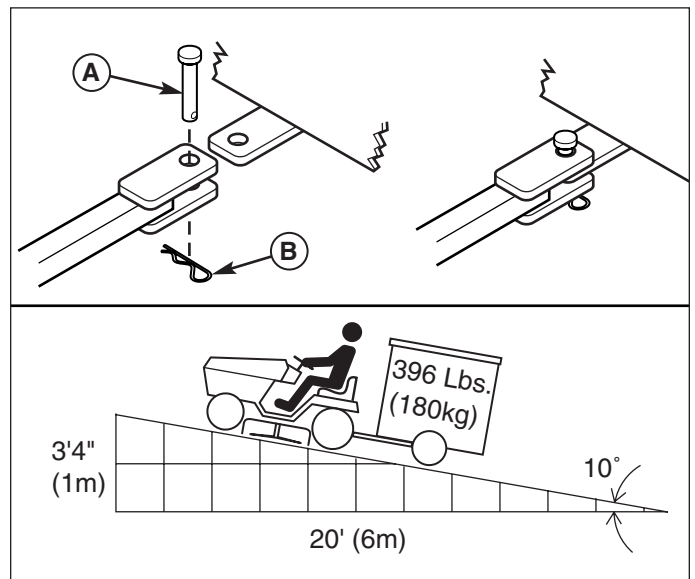

Figure 8. Trailer Weight Recommendations
The maximum horizontal drawbar force allowed is 444 Newton. The maximum vertical drawbar force is 222 Newton. This equates to a 396 lbs (180 kg) trailer on a 10 degree hill. Secure the trailer with an appropriately sized clevis pin (A, Figure 8) and clip (B).